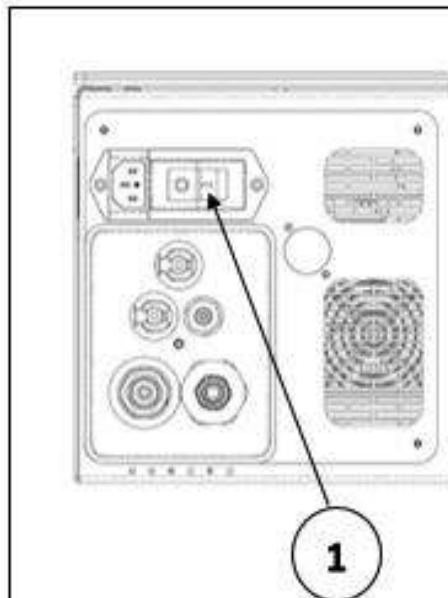
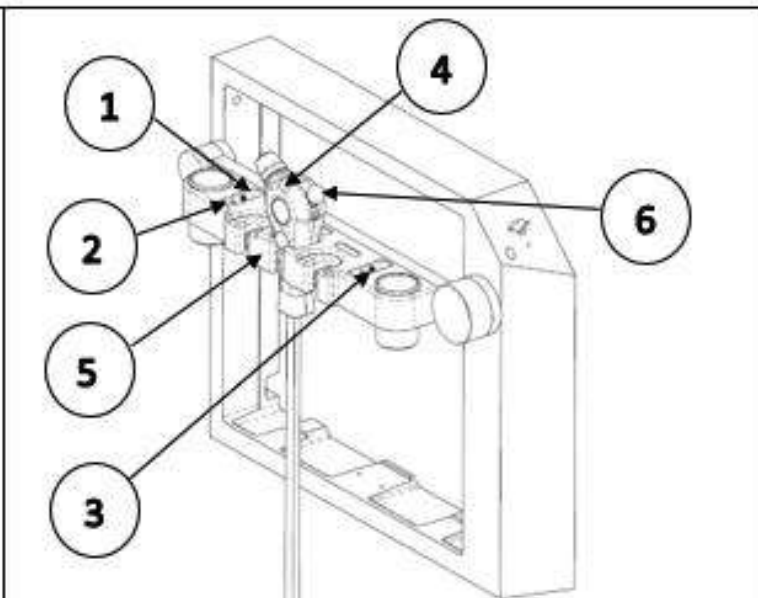

Fig. 1
Fig. 2
- Connect a 1/2 "hose (angled) [Fig. 2 No. 1] of the required length, to the water inlet of the irrigation unit (Fig. 1 No. 1) and the other end (Fig. 2 No. 2) to the network of the building, inserting the pressure regulator attached (Fig. 4 N°1) and the 20-micron filter [Fig. 5 N°1].
- On the other adjoining connector [Fig. 1 N°2], install the 3/8 "hose (angled) [Fig.3 N°1], and its free end (Fig.3 N°2) to the drain.
- Install the irrigation handle [Fig. 6 N°1], attaching the hose quick plug connectors [Fig. 6 N°2] and [Fig. 6 N°3], in those of the unit (Fig.1 N°3) and (Fig.1 N°4).
- Connect the insufflation hose (Fig. 7 N°. 1) by inserting the hose connector (Fig. 7 N°. 2) into the fitting (Fig. 1 N°. 5) of the unit.
- Connect the power cable to the unit (Fig. 1 N°6) and the other end to the power grid.
1. Turn on the device with the switch ON (Fig. 1 N°1)
2. The superheat cycle of water at 70° and the UV light cleaning start. The amber LED indicator [Fig. 2 N°1], will shine intermittently, and the blue LED is permanently illuminated in the accessory holder.
5. When the water reaches the wash temperature 36-38° C the green LED will be permanently illuminated [Fig. 2 N°2] enabling the use of the water control.
6. Lift the irrigation handle [Fig. 2 N°4] from its housing [Fig. 2 N°5]. Proceed to perform the washing, orient the handle towards the patient's ear and regulate the water flow using the lever [Fig. 2 N°6]
1. Lift the insufflation hose (Fig. 1 N°1) the air pressure starts.
2. Place the spray bottle (not supplied) in the hose housing (Fig. 2 N°1], just by pushing one over the other.
3. For its operation, with the thumb, we cover the rear hole and allow the spray to spray. (Fig. 2 N°2).